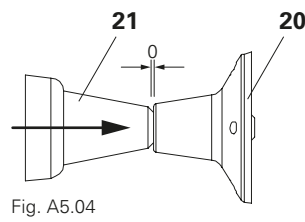
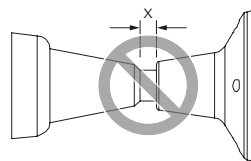

Fig. A5.04
Fig. A5.04b
- Anchor sleeve fully screwed in (Fig. A5.04 + Fig. A5.04b)